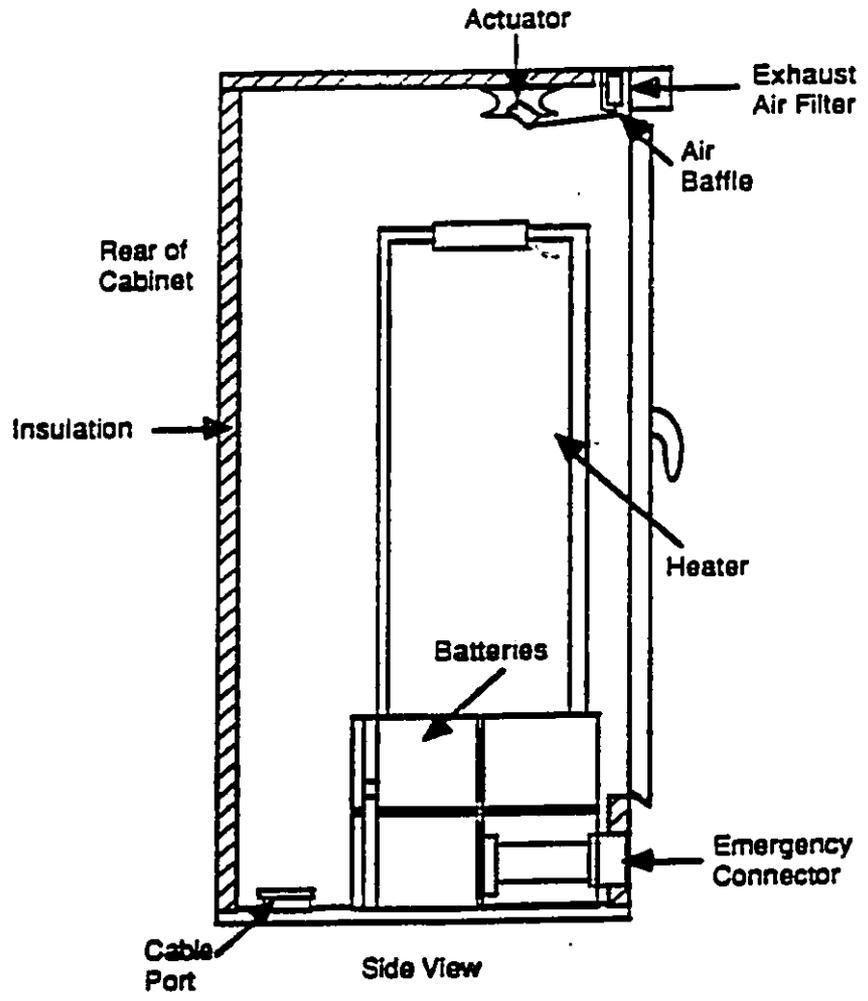

Fig. 1-3
1.13 The ceiling features a thermostatically controlled damper system (see Fig. 1-3). The actuator motor of the ventilation system is controlled by the actuator thermostat to operate the diverting damper as follows: when the temperature inside the cabinet rises above 30° C (86° F), the damper opens to allow air outside the cabinet to enter; the actuator thermostat simultaneously turns on the two intake fans, and air is directed down the back of the bay frame to the battery area, and up through the electronic equipment. The air is exhausted at the top of the cabinet by the exhaust fans. At cabinet temperatures below 30° C (86° F), the damper closes, the intake fans are shut off, and the air inside the cabinet is recirculated.